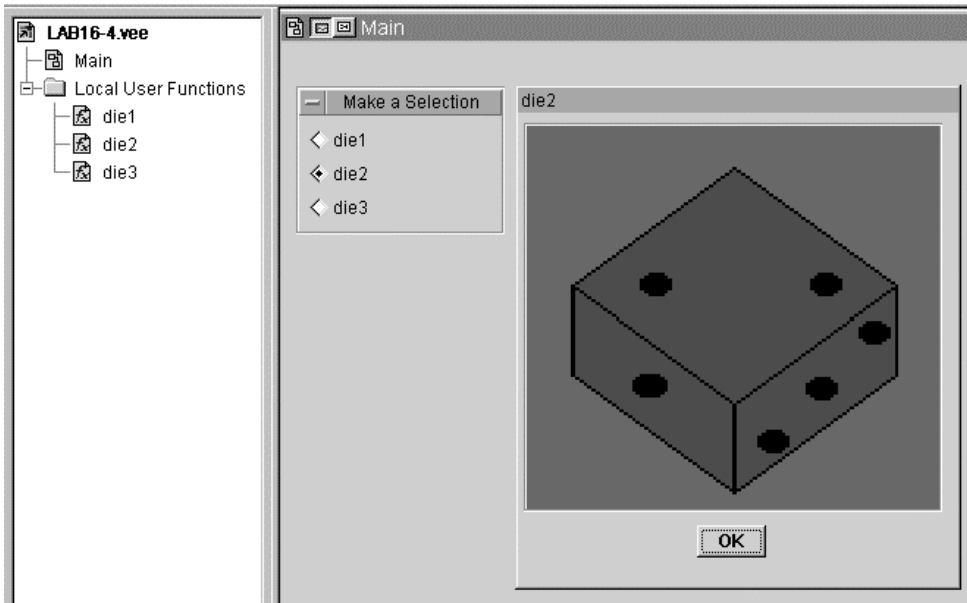

Figure 16.10. Panel view of the dice program
- ◇ 32. Run your program several times by selecting a Radio button. See Figure 16.10 where **die2** was selected.